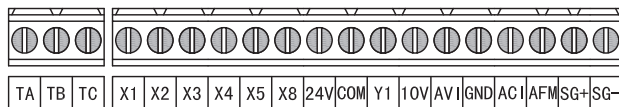

Fig.3-4 Control Circuit Terminal
1、Control circuit terminals are shown in the figure 3-4